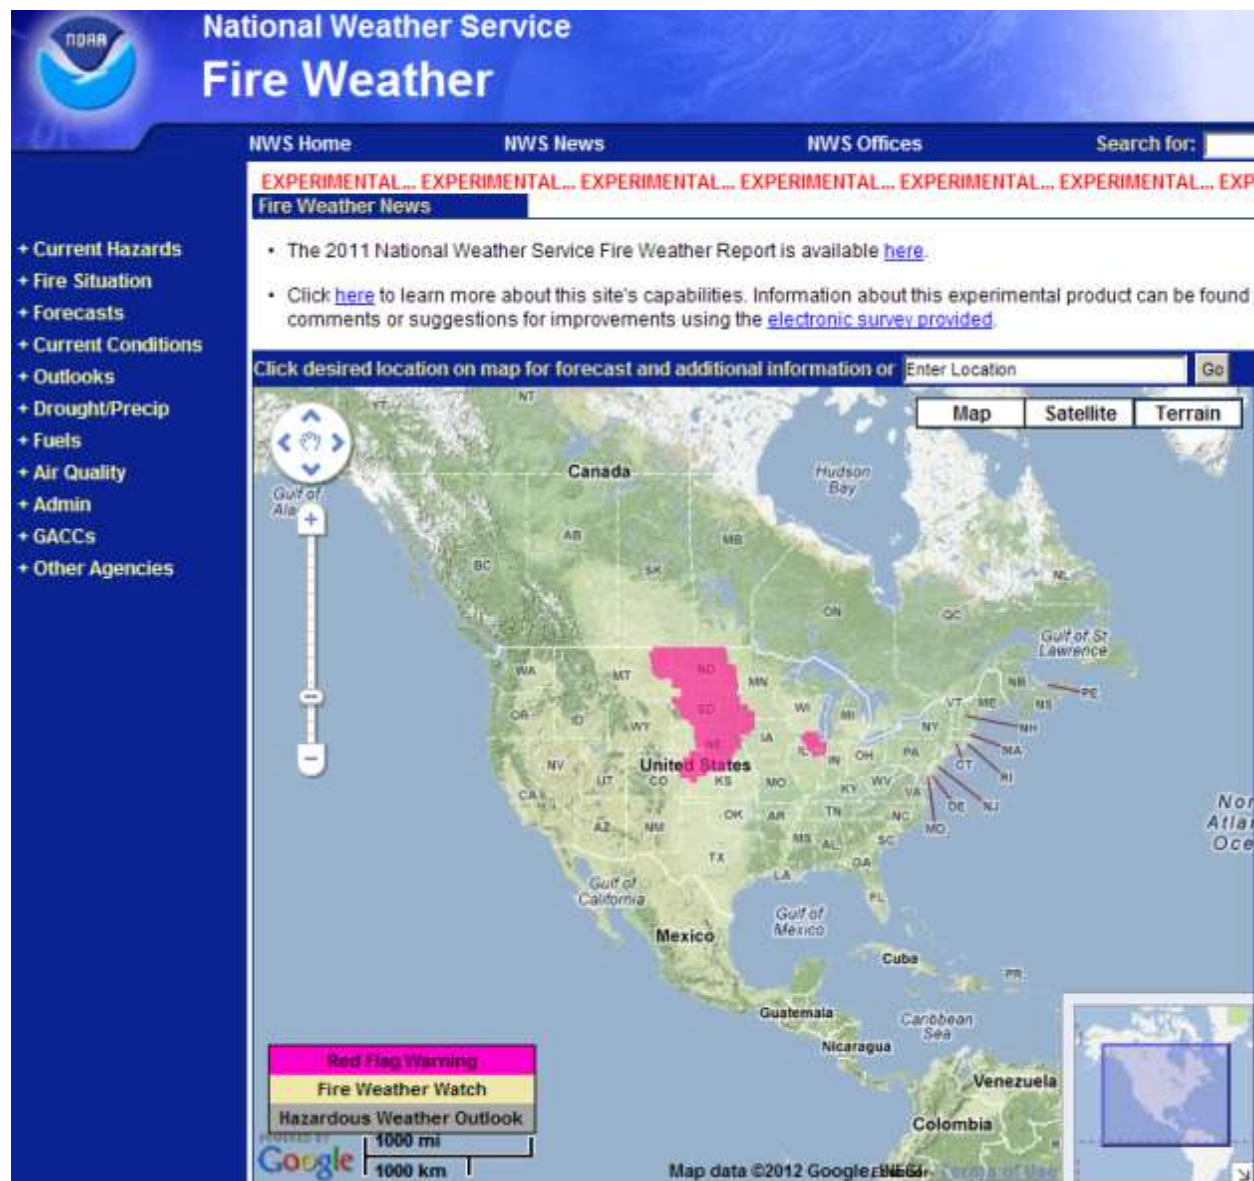

Figure 3-37— National Weather Service (NWS) Fire Weather webpage.
- 1) Go to the National Weather Service (NWS) Fire Weather webpage (fig. 3-37):